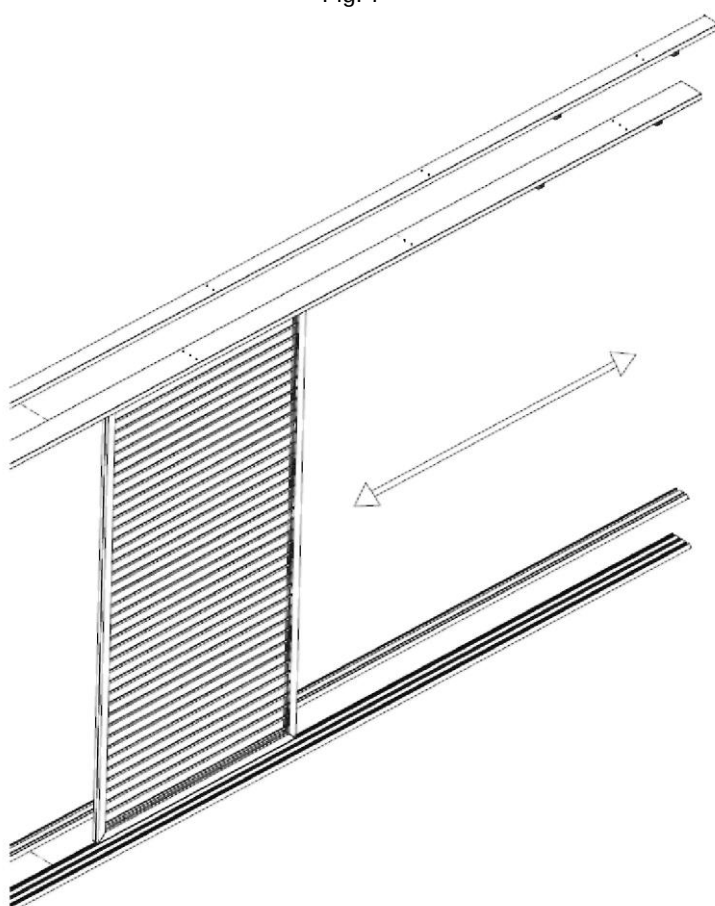

Fig. 8
8. Test how each panel runs along the entire rail. Make sure the panels run smoothly, without the bottom wedges rubbing against the bottom rail sides while the clearance is small enough to prevent the bottom of the panel from coming out of the bottom frame groove (Fig. 8).